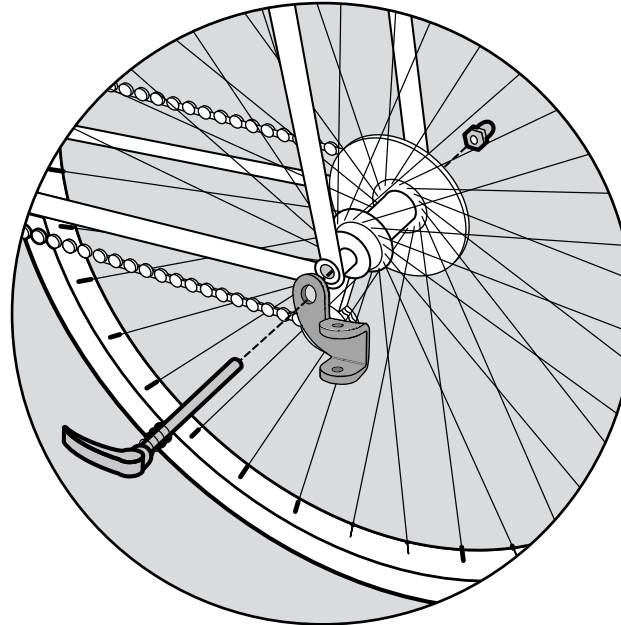

Figure 17
- Quick Release or Nutted Axle:** Remove quick-release skewer or nut from the left side of bike's rear wheel axle. Install hitch between quick-release or nut and frame (Figure 17). Tighten the quick-release or nut following manufacturer's recommendation. The hitch can remain on the bike when trailer is removed. Consult Burley.com for accessories designed to help fit your trailer to your bike.